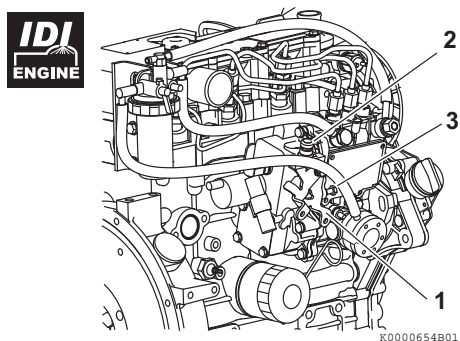

Figure 12
1. Check that the governor lever (**Figure 12, (1)**) makes firm contact with the high idle stop (**Figure 12, (2)**) and the low idle speed limit screw (**Figure 12, (3)**) when the engine speed control is in the full speed or low idle speed positions.